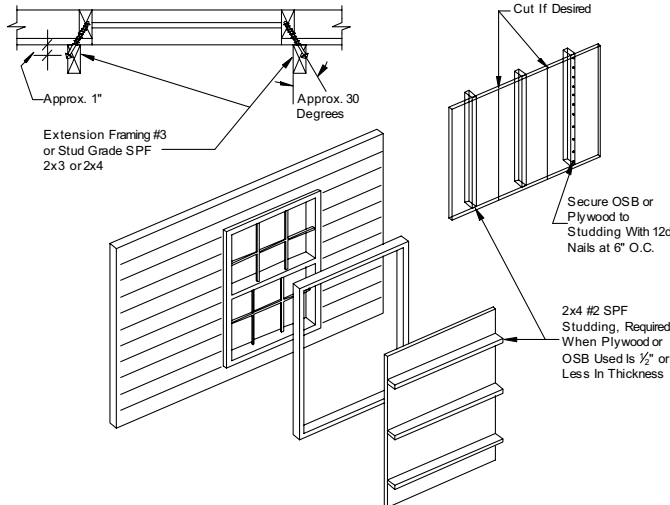

Figure 97. Wind protection shutter construction
If desired, prepare temporary protective window covers for use during severe wind storms and hurricanes according to **Figure 97**, **Table 27**, and the procedure below.
2. Assemble shutter panels as shown in **Figure 97**.